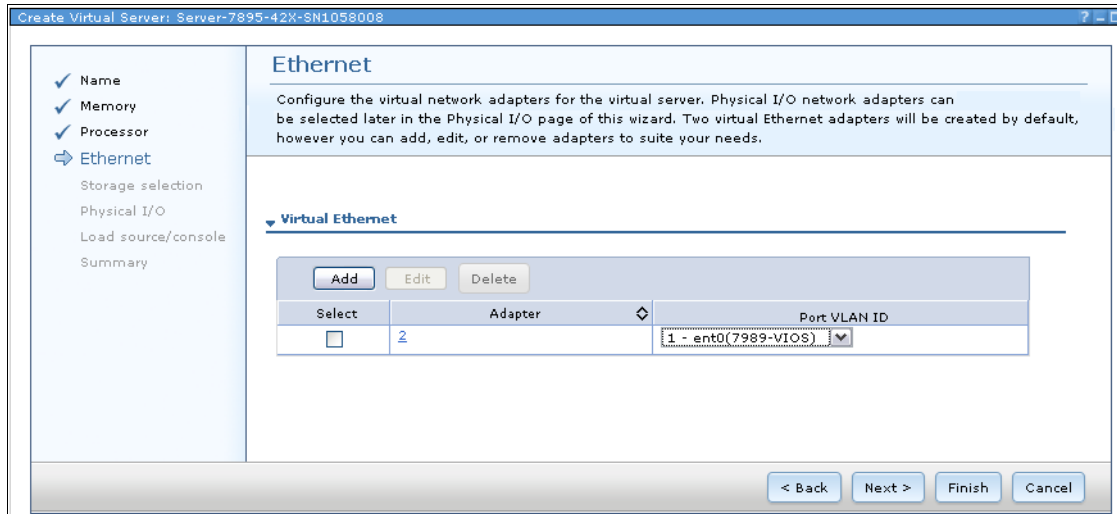

Figure 8-77 IBM i virtual server settings for virtual Ethernet
4. Create the virtual Ethernet adapter in the Ethernet window, as shown in Figure 8-77. With the VIOS already defined, the FSM defines a virtual Ethernet on the same VLAN as the SEA on the VIOS. We keep that definition. Click **Next**.